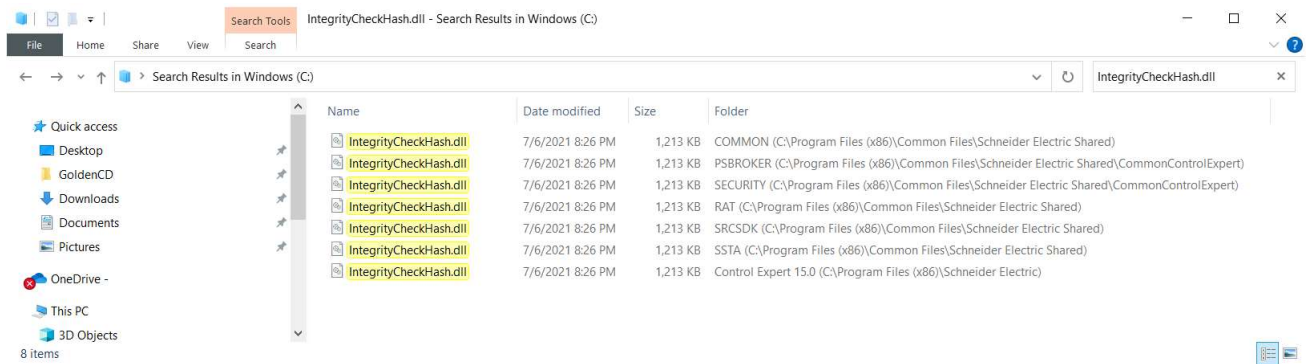

Figure 17 – Other locations where the 'IntegrityCheckHash.dll' is installed.
- 4.) Control Expert installs the 'IntegrityCheckHash.dll' in multiple locations (See Figure 17).